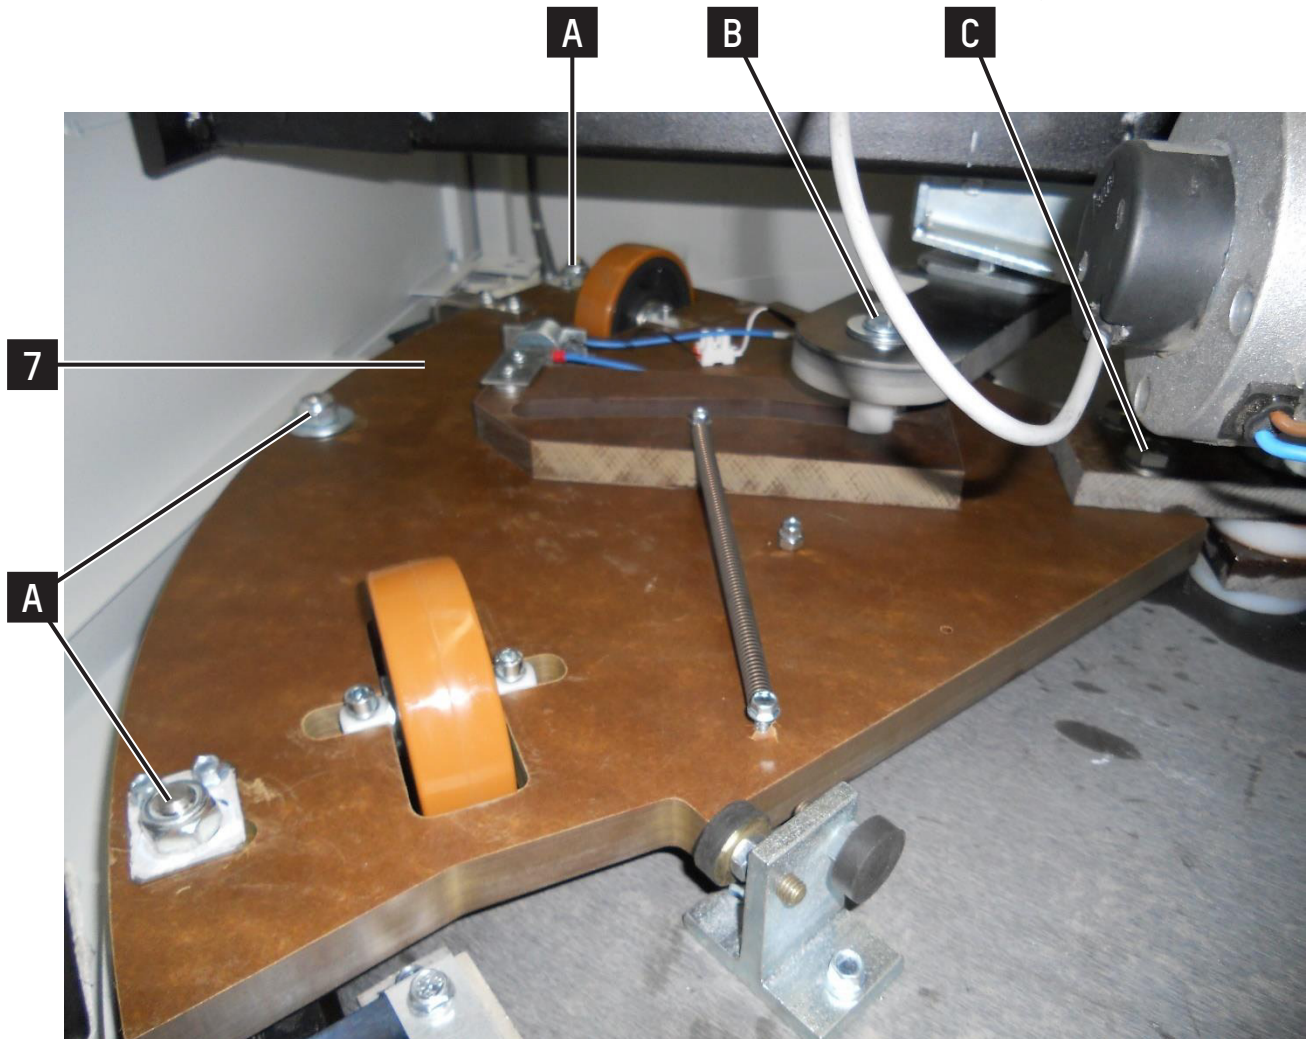

Fig. 25 - (disassembling / Photo 1
3. Remove the 2 sliding upper devices (see detail 7, Fig. 25), by unscrewing the 3 nuts marked with A, the pin of the connected rod marked with B and the screws marked with C, which link the sliding device to the central pin.
7. Reassemble the 2 sliding upper parts, (detail 7 Fig. 25).